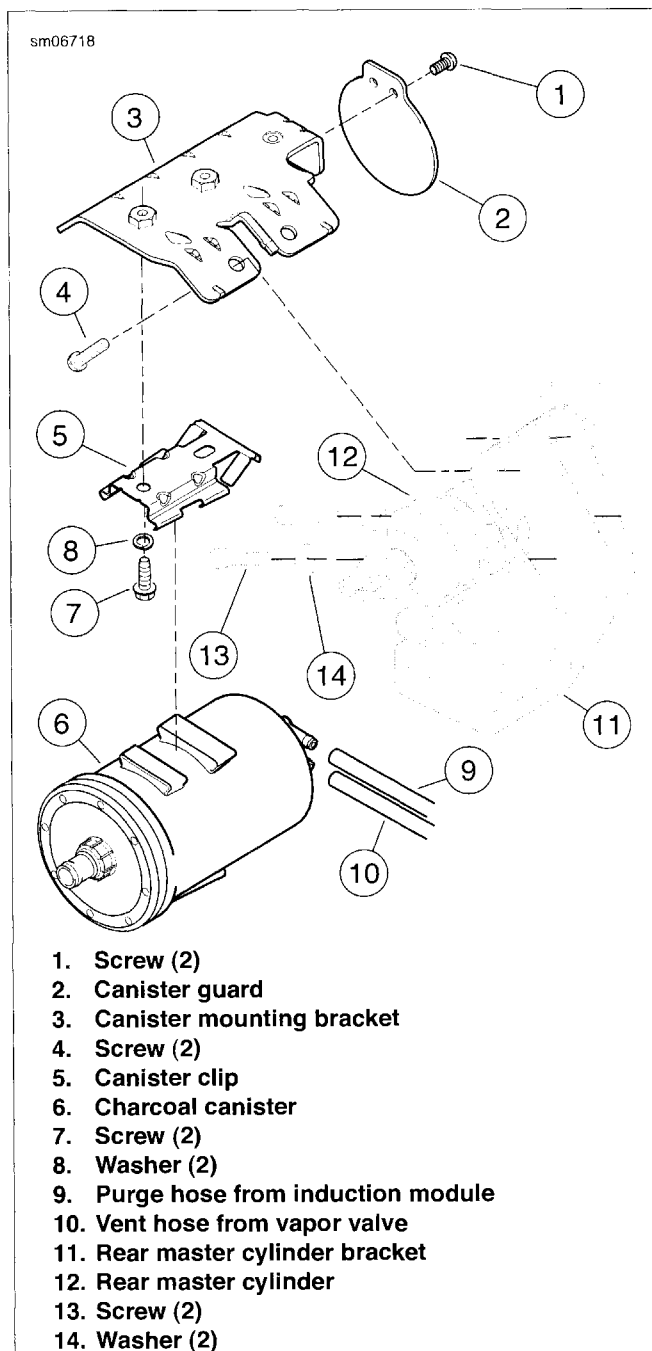
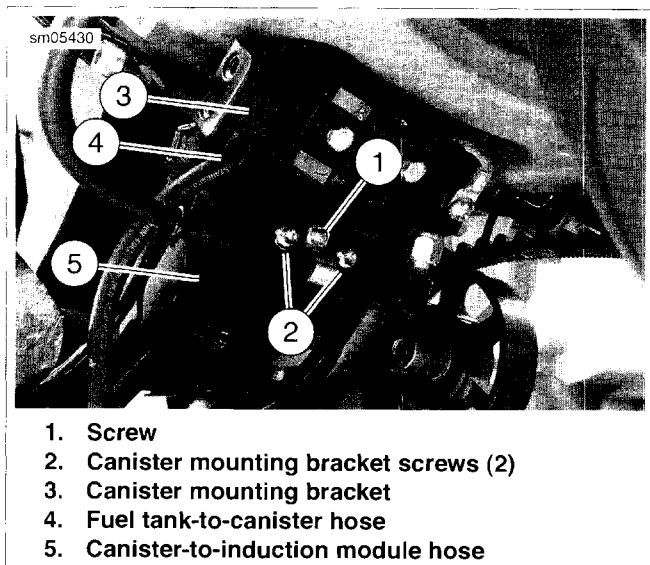
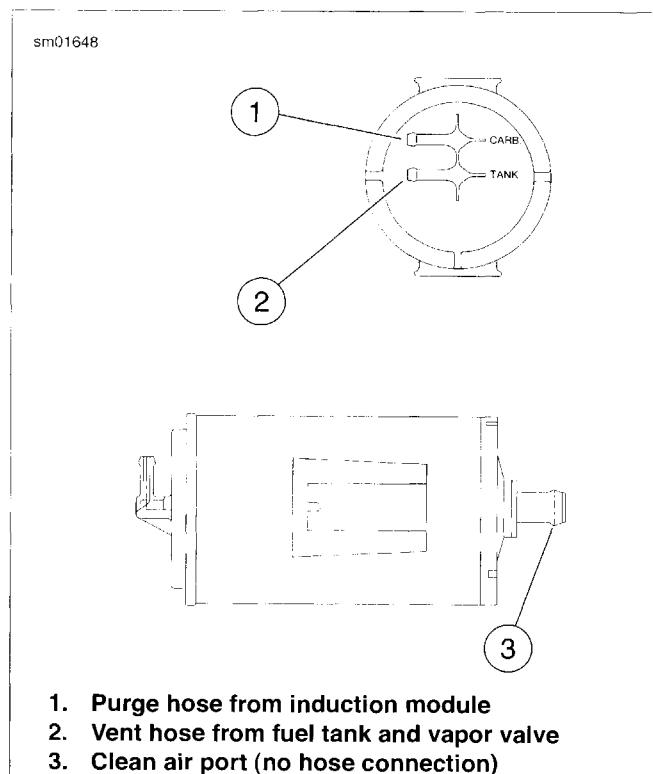

Figure 4-90. Charcoal Canister Mounting (Typical)
Figure 4-91. Charcoal Canister Mount: XR Models
Figure 4-92. Charcoal Canister Connections
1. See Figure 4-90. Remove two screws (1) and canister guard (2).
2. Mark the two hoses (9, 10) connected to charcoal canister (6). Disconnect hoses from canister.
3. Depress locking tabs at left end of canister clip (5). Slide canister towards left side of vehicle until it disengages from canister clip.
4. Remove two screws (7) and washers (8) to detach canister clip from canister mounting bracket (3).
- a. Remove two screws (13) and washers (14) securing rear master cylinder to mounting bracket. This will allow you to move the rear master cylinder to access the remaining fasteners.
- b. Remove two screws (4) to detach canister mounting bracket from rear master cylinder mounting bracket.
6. **XR Models:** See Figure 4-91. If canister mounting bracket requires repair/replacement, remove two screws (2) to detach canister mounting bracket from frame.
1. **XL Models:** See Figure 4-90. If canister mounting bracket (3) was removed, proceed as follows:
- a. Attach bracket (3) to rear master cylinder mounting bracket and frame with two screws (4). Tighten to 17-22 ft-lbs (23.1-29.9 Nm).
- b. Apply one or two drops of LOCTITE 243 to screws (13). Install rear master cylinder (12) to mounting bracket (11) with screws and washers (14). Tighten to 17-22 ft-lbs (23.0-29.8 Nm).
2. **XR Models:** See Figure 4-91. If canister mounting bracket (3) was removed, proceed as follows:
- a. Apply Loctite Threadlocker 243 (blue) to the threads of the mounting screws (2).
- b. Install bracket and tighten screws (2) to 17-22 ft-lbs (23.1-29.9 Nm).
3. See Figure 4-90. Attach canister clip (5) to canister mounting bracket with two screws (7) and two washers (8). Tighten to 36-60 **in-lbs** (4.1-6.8 Nm).
4. Starting at left side of canister clip, slide charcoal canister (6) to the right until tabs on canister clip lock canister in place. Bend tabs outward somewhat if canister is not held securely.
5. See Figure 4-92. Connect two hoses (1, 2), marked during disassembly, to their proper fittings on canister.
6. See Figure 4-90. Install canister guard (2) using two screws (1). Tighten to 35-45 **in-lbs** (4.0-5.1 Nm).